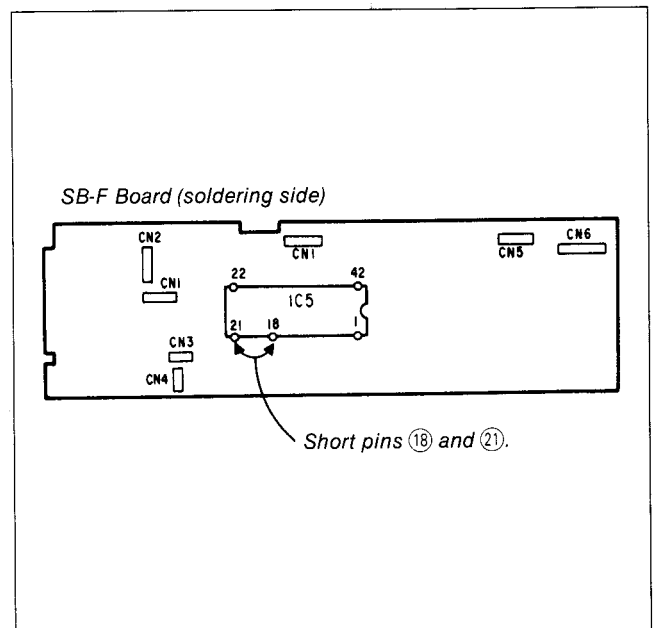

Fig. 8-52.
- ii) Short pins ⑱ and ㉑ of IC5 on SB-F Board by soldering lead wire, etc. (See Fig. 8-52)